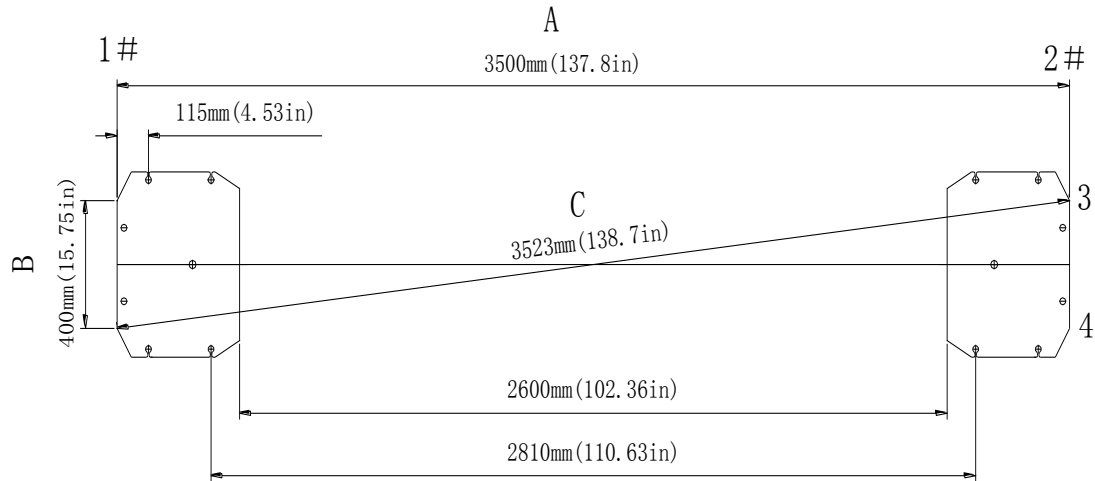

Figure 3
- Recheck overall width dimension, fig. 3. Drill the anchor holes using the baseplate as a template. Drill through the floor if possible or at least 6 inches minimum.